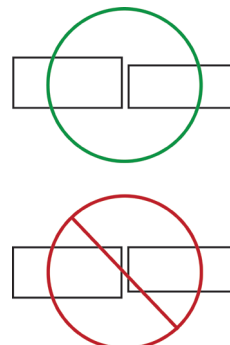

Figure 1
3. Set-up Chroma sheets to ensure that they are level and square at the joint to be seamed together. This can be done on the sub-top of the counter top itself or on leveled saw horses. Bottom surfaces of the seam should be aligned. (See Figure 1) Make sure that the colored side of the panel is facing down. It is critical to understand that you must be able to access the bottom side of the joint after adhesive application. Excess glue and tape must be removed after adhesive has cured.